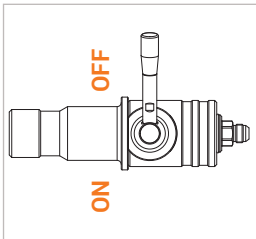

Figure 2
- ▶ Remove the fueling nozzle from the dispenser. The actuation lever (Pos. 3) must be in the OFF position (*Figure 2*).